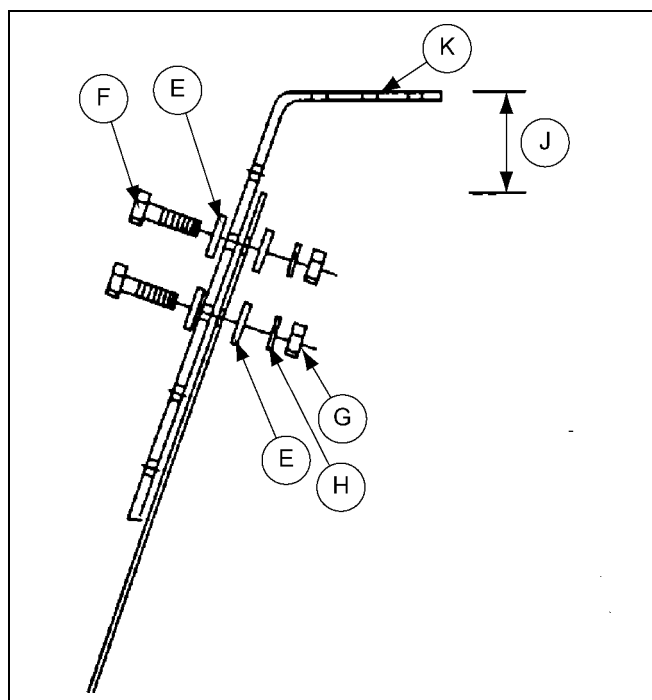

Figure 3C The spreader cone connection to the hanger bracket.
5. Use two (2) 5/16"-18 x 1-1/4" bolts (F), four (4) 5/16" flat washers (E), two (2) 5/16" lock washers (H), and two (2) 5/16"-18 nuts (G) to fasten each of the three (3) hanger brackets (K) inside the spreader cone. *(See Figure 3C.)* The five (5) mounting slots provided in the hanger brackets (K) are used for adjusting (J) the spreader up and down inside the bin. Location is dependent on several factors such as interference with stirring systems and grain bouncing off spreader motor onto bin roof.
6. Measure bin opening (hatch collar) to select correct slots for bolting hanger extensions (L) to hanger brackets (K). All GSI bins with standard peak roof cap have a hatch collar diameter 31-1/2". Loosely mount each hanger extension (L) to a hanger bracket (K), using the appropriate slots with two (2) 5/16"-18 x 1-1/4" bolts (F), two (2) 5/16" lock washers (H), four (4) 5/16" flat washers (E) and two (2) 5/16"-18 nuts (G). *(See Figure 3C.)*